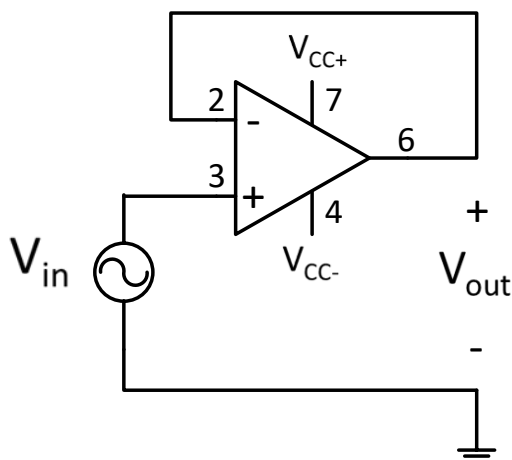
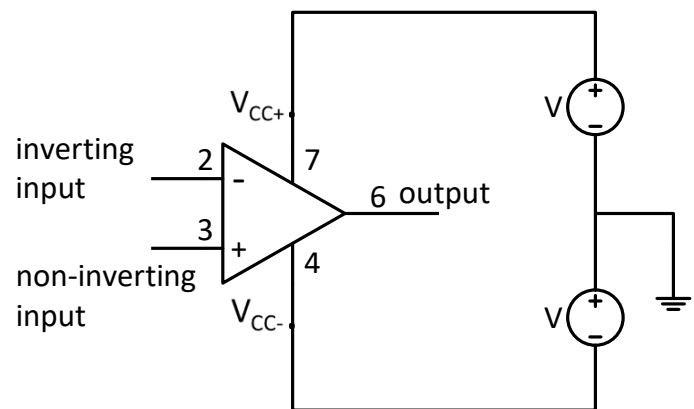

Figure 3: Voltage Follower Circuit
Figure 4: Op-amp V_{CC+} and V_{CC-} Connections
1.1 Construct the voltage follower circuit shown in Figure 3, connect V_{CC-} and V_{CC+} pins to the power supply and set them to -15 V and 15 V respectively. To supply these voltages from a DC power supply, as shown in Figure 4, connect the negative terminal of the first channel to the positive terminal of the second channel on the breadboard; this will create a reference point of zero voltage. You can then use the positive terminal of the first channel to supply the 15 V and the negative terminal of the second channel to supply the -15 V. Make sure the channels of the power supply are set to independent mode.